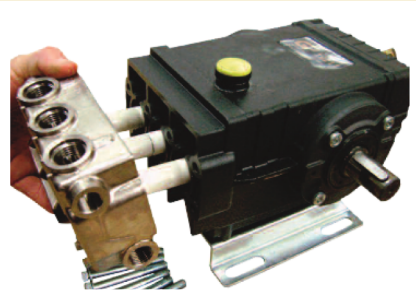

Fig. 6 — Manifold head separated from the crankcase, exposing the three ceramic plungers.
- 1 Remove the eight M8×60 screws (item 21) retaining the head.
- 2 Separate the head from the crankcase. Tap lightly with a rawhide mallet if needed. **Caution:** slide the head off with extreme care to avoid damaging the plungers (Fig. 6, page 12).